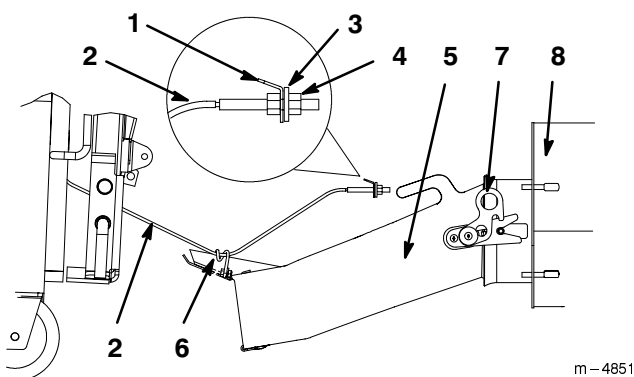

Figure 37
14. Route plenum cable under seat. Raise seat, to gain access to plenum cable. Install cable into bracket and install washer and nut (Fig. 37).